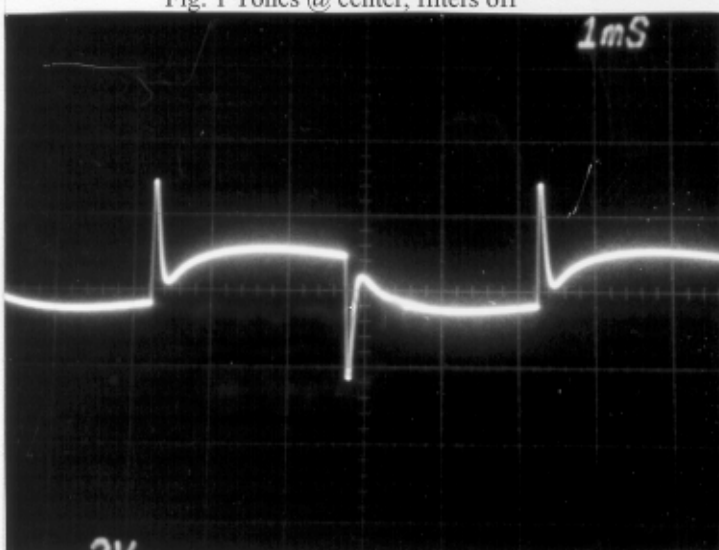

Fig. 3 Contour on 10
4. Turn the CONTOUR to 10 and compare the output to Figure 3 on the waveforms page. Turn the CONTOUR back to zero